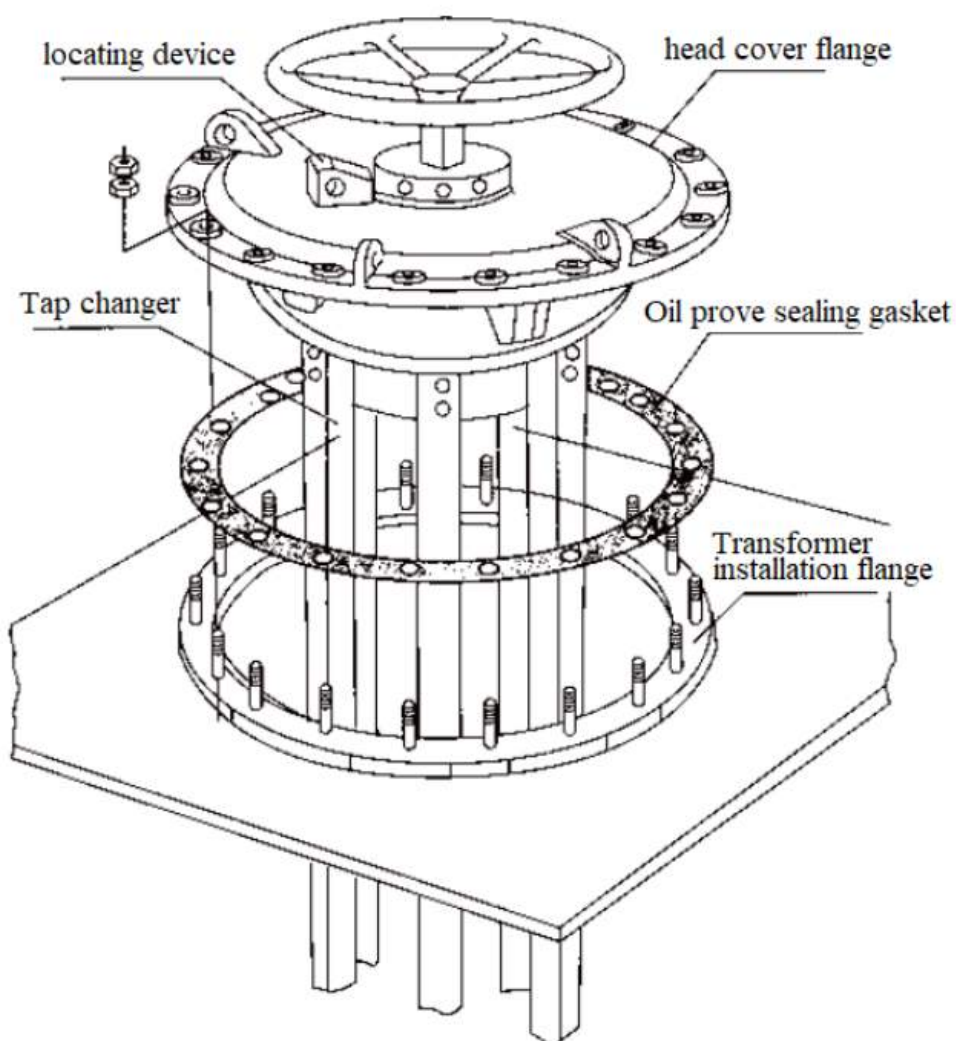

Figure 7 Installation diagram of the tap changer on the tank cover type transformer
6.2.1 Installation of the off-circuit tap changer on the tank cover type transformer (fig. 7)